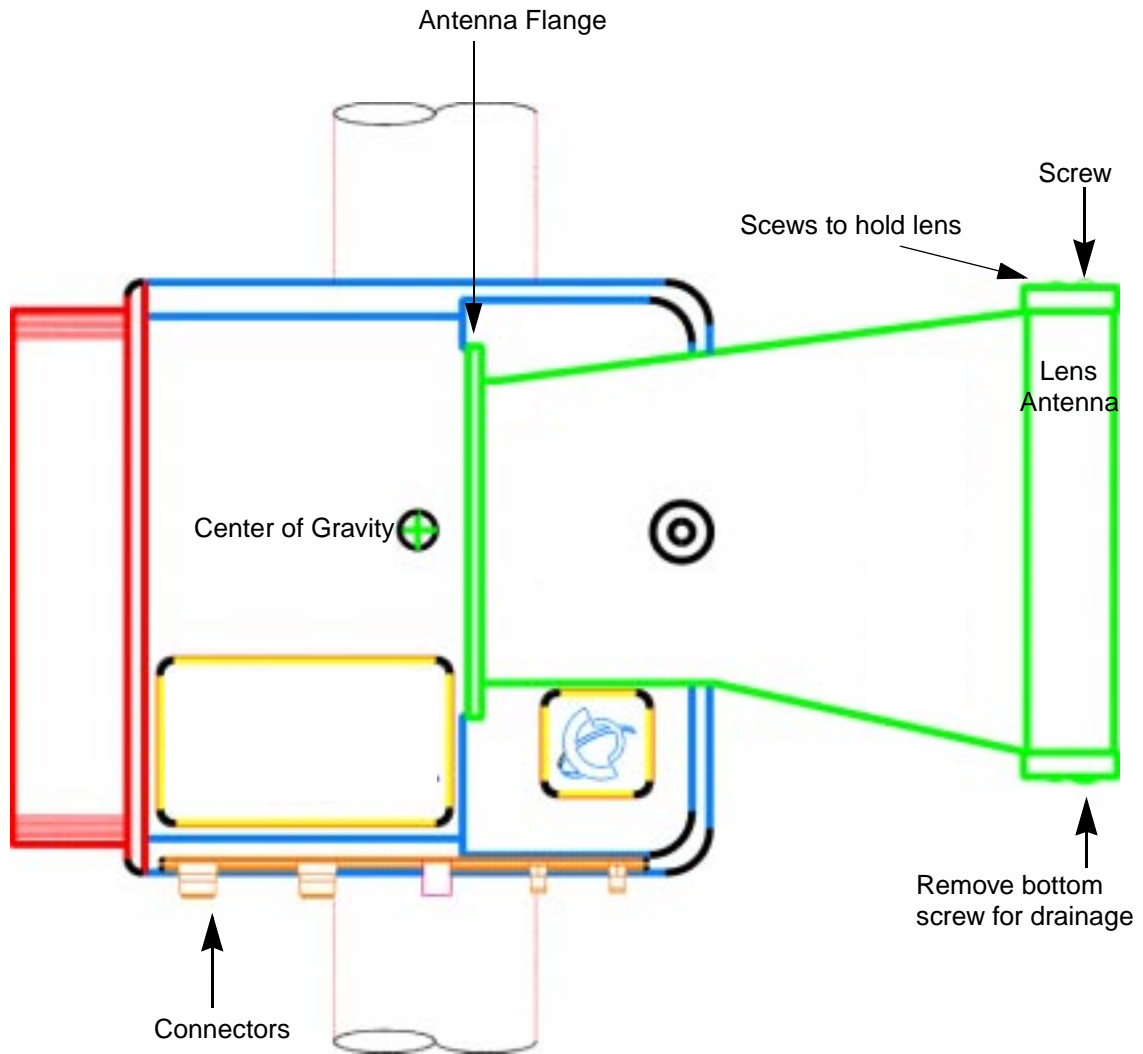

Figure 1-11
2. Mount the BTR 38 GHz to a stable pole using the supplied mounting brackets. The mounting brackets accommodate poles with outside diameters from 2.5" to 4.5". See Figures 1-11, 1-12, 1-15, 1-16, and 1-21.
5. Install the BTR 38 GHz so that the fin array (heat sink) is positioned away from external barriers to allow heat dissipation through natural convection and radiation. See Figures 1-11, 1-17, 1-18, and 1-21.
8. Connect the telemetry cable from the BTR 38 GHz to the RPE 9000's telemetry connector. There is a 300 baud modem connection between the BTR 38 GHz, the RPE 9000 and the RSM 9016. See Figures 1-11 and 1-17.